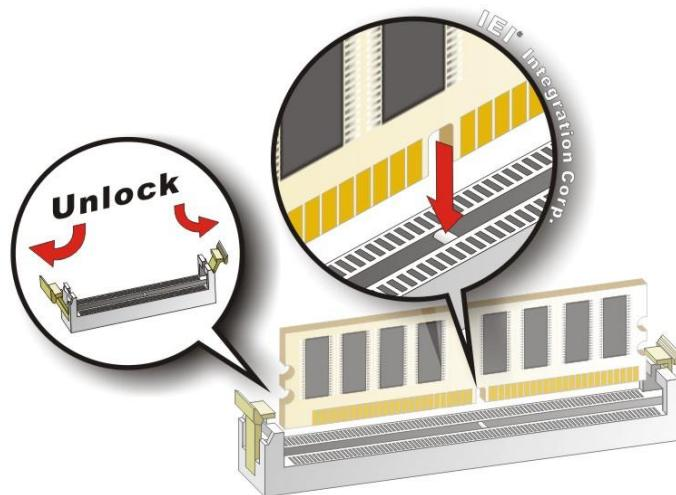

Figure 4-8: DIMM Installation
To install a DIMM, please follow the steps below and refer to **Figure 4-8**.
Step 1: Open the DIMM socket handles. Open the two handles outwards as far as they can. See **Figure 4-8**.
Step 2: **Align the DIMM with the socket.** Align the DIMM so the notch on the memory lines up with the notch on the memory socket. See **Figure 4-8**.
Step 3: **Insert the DIMM.** Once aligned, press down until the DIMM is properly seated. Clip the two handles into place. See **Figure 4-8**.